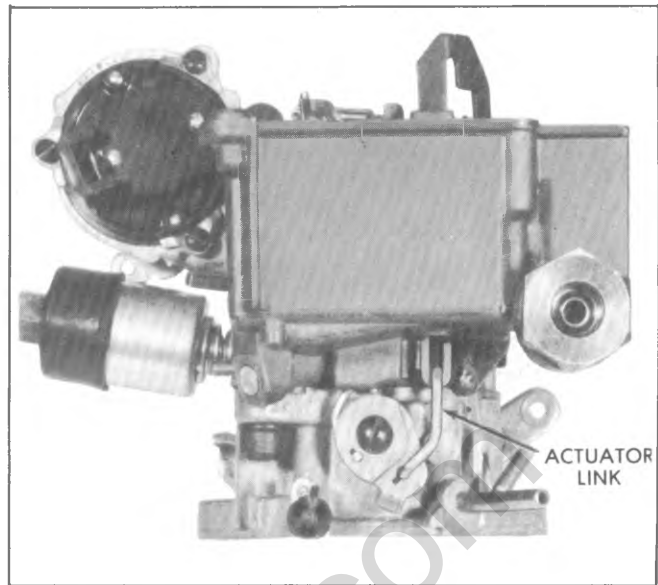

Fig. 6C-26--Pump Drive Link
6. Install pump ball, spring and "T" into pump discharge hole (Fig. 6C-10).